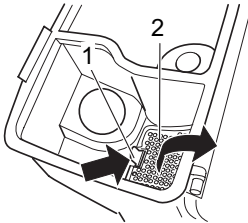

Fig. 28
3. Remove the filter grid (Fig. 28/2). To do this, press the lock (Fig. 28/1) in and lift the filter grid up and out.